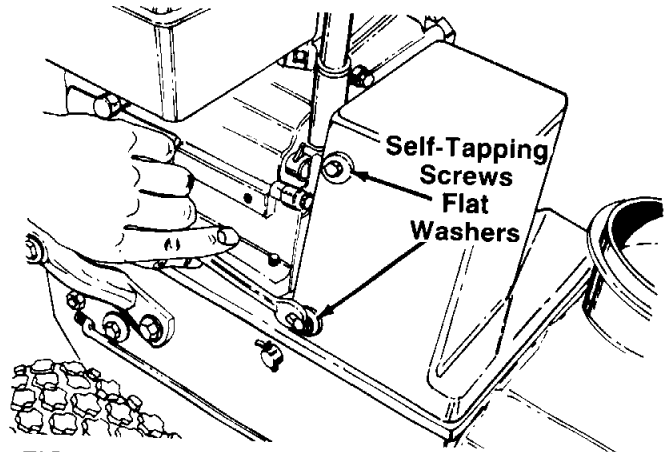

FIGURE 29.
3. Remove the top plastic belt cover by removing four self-tapping screws and flat washers. See figure 29.